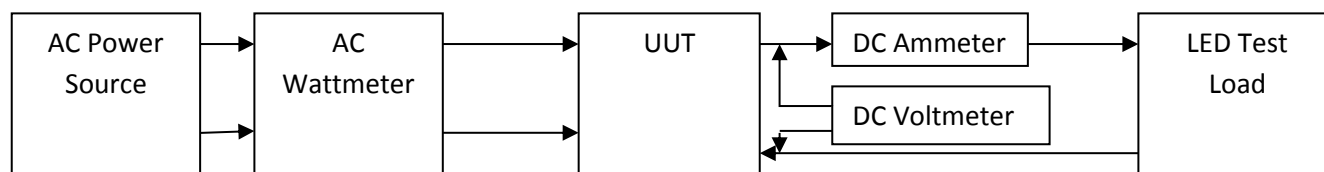

Figure 8. Test Set Up
1. Connect the LED Load to the red(+) and black(-) leads through the ammeter shown in Figure 8. **Caution: Observe the correct polarity or the load may be damaged.**
2. Connect the AC power to the input of the AC wattmeter shown in Figure 8. Connect the white leads to the output of the AC wattmeter
3. Connect the DC voltmeter as shown in Figure 8.